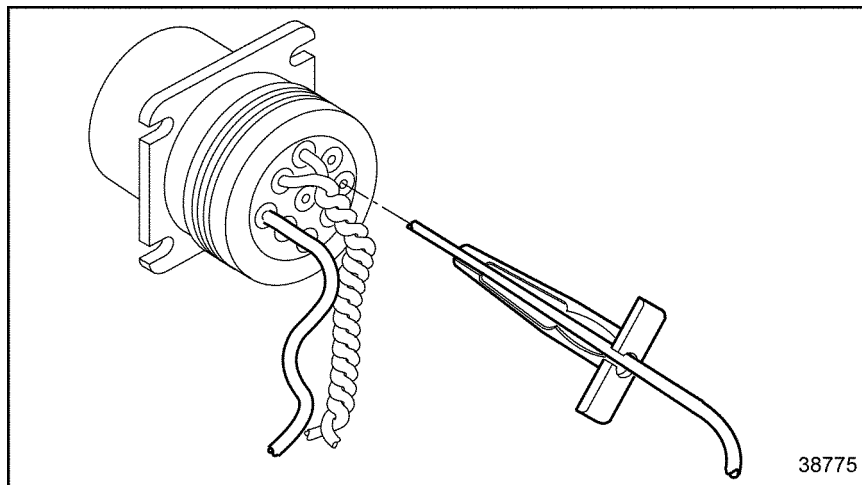

Figure 16-31 Removal Tool Insertion
2. Slide the tool along the wire into the insert cavity until it engages and resistance is felt. Do not twist or insert tool at an angle. See Figure 16-31.